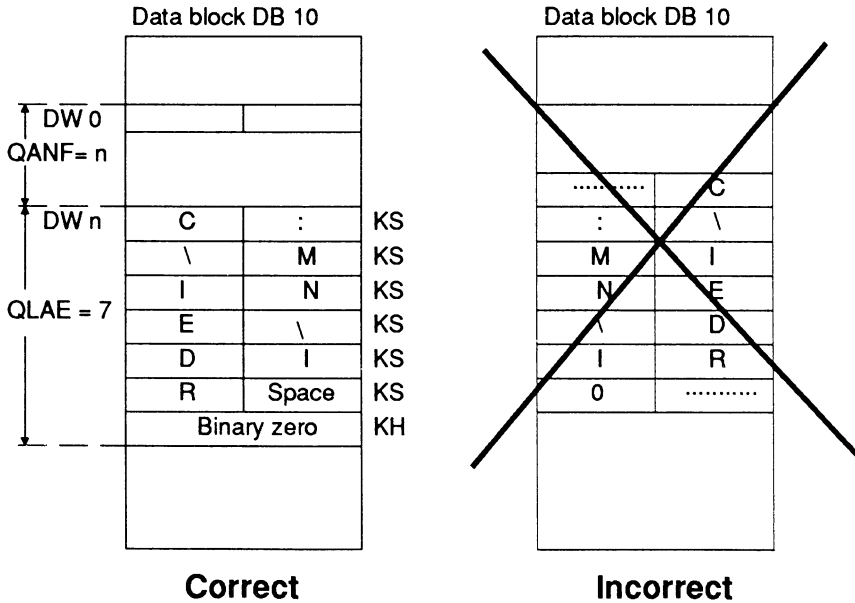

Fig. 5.6 Storage of path name in a data block
- QANF: Offset of 1st data word with the path name (the path name must commence at a **word limit**, see Fig. 5.6).